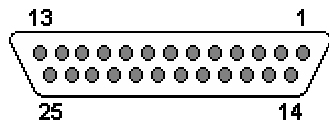

Figure 3-27: Parallel Connector Pinout Locations
- CN Pinouts: See Figure 3-27 and Table 3-36